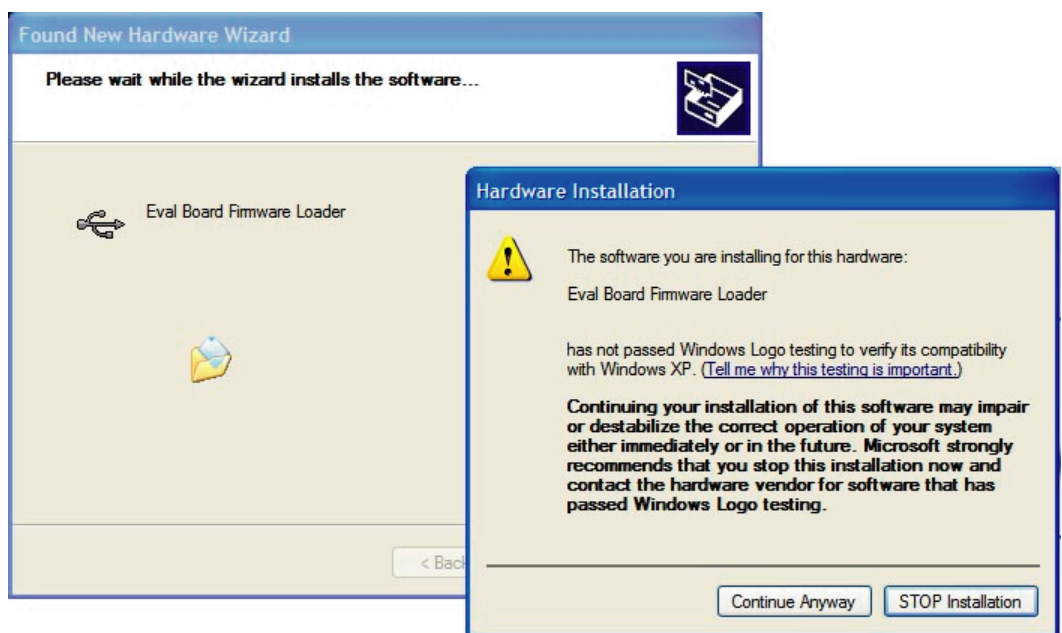

Figure 7.
4. When the window in Figure 7 appears, click **Continue Anyway**.